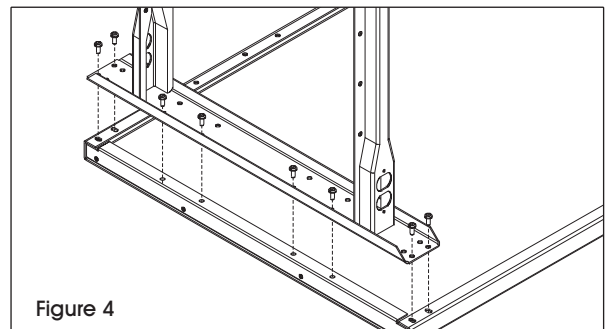

Figure 4
1. Align leg holes to end of tabletop. Secure with eight 1/4" - 20 x 5/8" bolts. Threaded inserts are provided on each tabletop end. (See Figure 4)